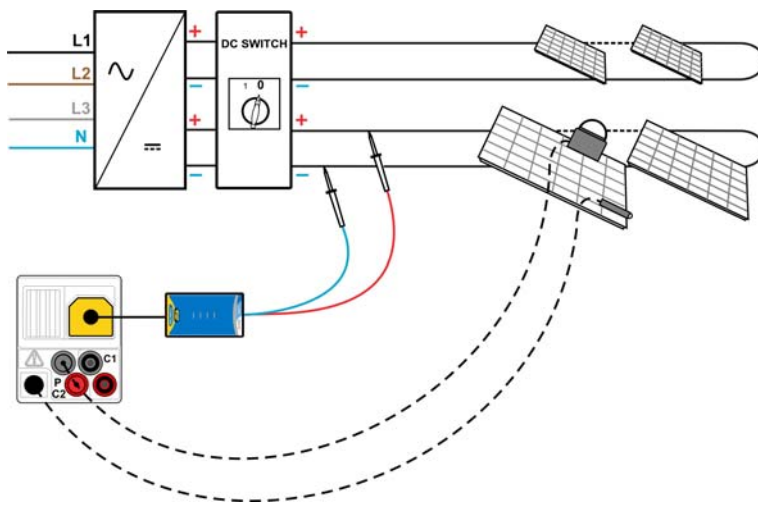

Figure 6.17: Uoc / Isc test
- ❑ **Connect** the item to be tested (see figure 6.17).